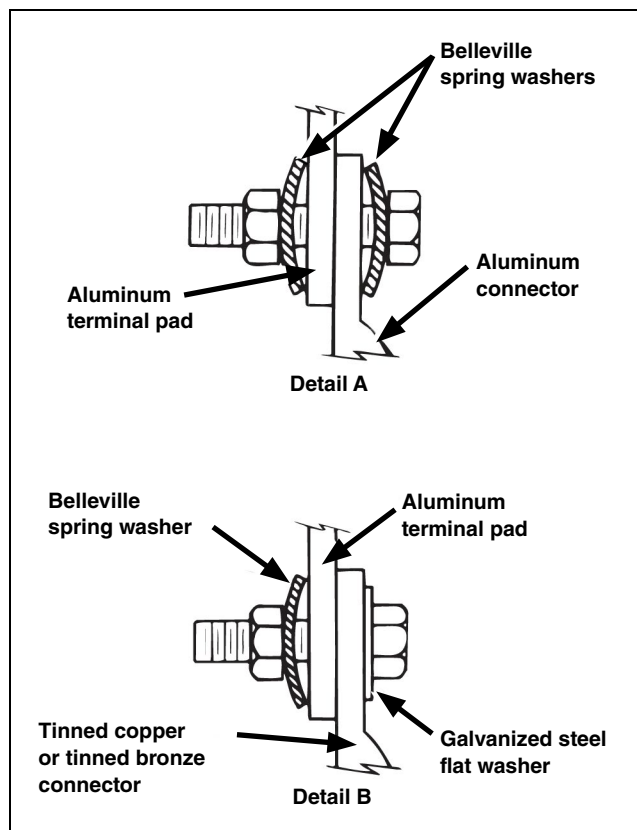

Figure 8. Terminal-pad connections. See STEP 4.
STEP 4. Before connecting the cable terminators to the aluminum terminal pads, thoroughly wire-brush aluminum contact surfaces to remove any dirt or foreign materials as well as natural surface oxides. Immediately coat both contact surfaces to $\frac{1}{2}$ -inch (13 mm) beyond the joint with a uniform layer of Penetrox® A. Then, make the connections as follows. See Figure 8.
For aluminum connectors: Use $\frac{1}{2}$ -inch aluminum or galvanized steel hardware with two Belleville spring washers (not furnished) as shown in Detail A of Figure 8. Before tightening the connecting bolts, complete the installation of optional cable guides (where applicable) following the cable-guide manufacturer's instructions. Torque aluminum bolts to the manufacturer's specifications. Torque steel bolts to 50 foot-pounds (67.79 N-m) or, in the absence of a torque wrench, tighten each bolt until the Belleville washers are fiat. Then, back off one-half turn. Do not use lockwashers with Belleville washers.
For tinned copper or tinned bronze connectors: Use $\frac{1}{2}$ -inch galvanized steel hardware with one Belleville spring washer (not furnished) against the aluminum terminal pad and one galvanized steel fiat washer against the tinned connector as shown in Detail B of Figure 8. Before tightening the connecting bolts, complete the installation of optional cable guides (where applicable) following the cable-guide manufacturer's instructions. Torque the bolts to 50 foot-pounds (67.79 N-m) or, in the absence of a torque wrench, tighten each bolt until the Belleville washer is fiat. Then, back off one-half turn. Do not use lockwashers with Belleville washers.